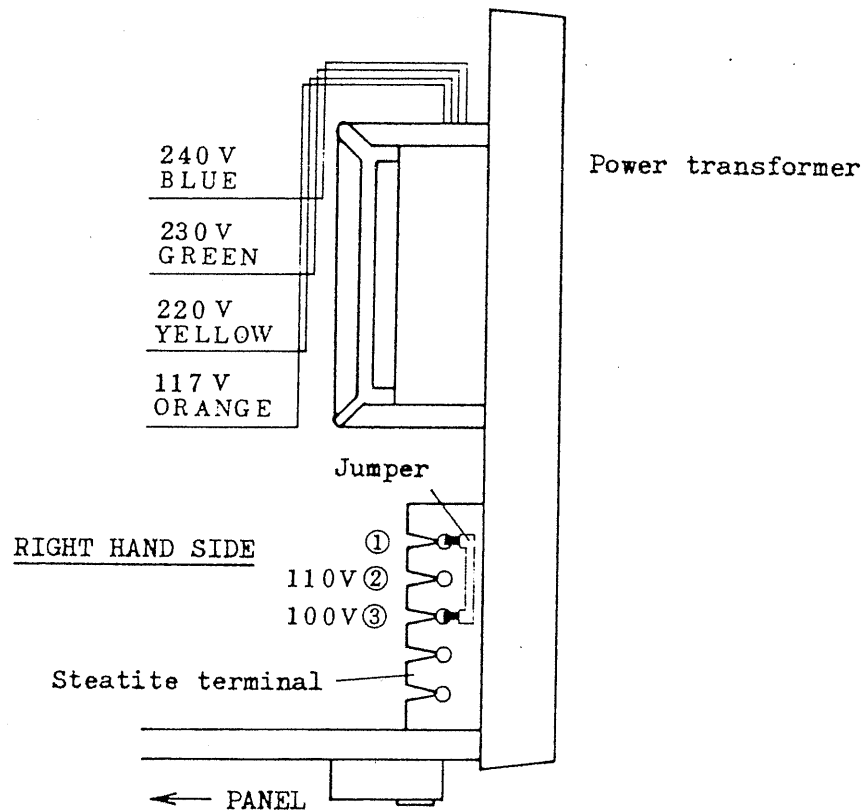

Figure 3
(1) The connections shown in Figure 3 is for the 100 V AC line power.
(2) Conversion for 110 V AC:
Connect the fork pin as shown in Figure 4-2. Set the VARIABLE knob in the extremely clockwise position and so adjust the DC BAL control that the output terminal voltage becomes $0 \pm 1 \text{ mV}$. After the adjustment is over, return the fork pin to the position shown in Figure 3.